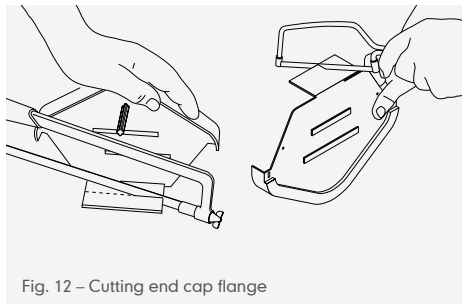
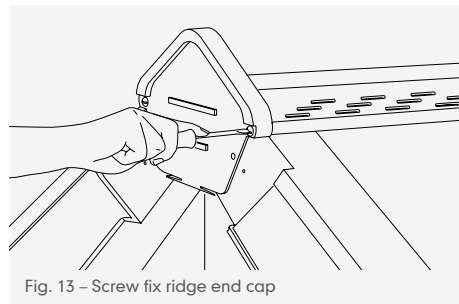

Fig. 12 – Cutting end cap flange
Fig. 13 – Screw fix ridge end cap
13 If required, trim flange of ridge and cap to fit between top course verge units (Fig. 12, page 140). Screw ridge end cap to end of dry ridge batten by locating 30mm stainless steel screws into end of circular beads on upper flange (Fig. 13, page 140).
- 14 Screw ridge end cap through top course verge unit, to end of top course tiling batten. Locate 30mm stainless steel screw (provided) through lower, partly formed fixing holes (Fig. 13).
- 15 If required, trim flange of ridge end cap to fit between top course verge units. (Fig. 12). Top course verge unit is secured to end of top course tiling batten in normal manner.